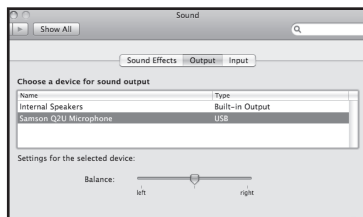

Figure 15
7. To set the playback volume in the headphones, adjust the **Output** volume slider at the bottom of the **Sound** dialog box (figure 15) or press the pushbuttons on the mic.